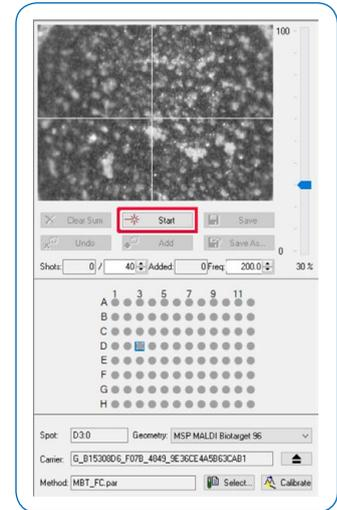

Figure 3.1 Manually acquiring spectra
- Check whether the crystallization is homogeneous (see Figure 3.1)
- Check if good quality signals from the sample can be obtained by manually acquiring spectra (select sample spot and press on “Start”, see Figure 3.1 and 3.2)